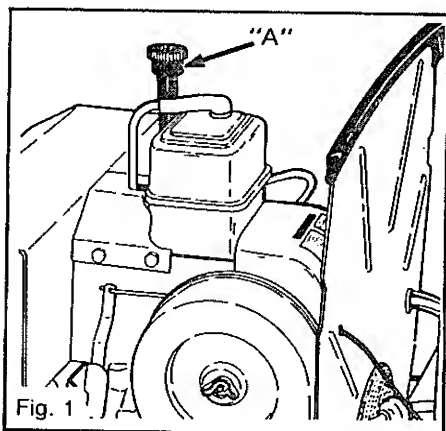

Fig. 1
1. Check for proper level of engine oil. Fill crankcase through dipstick opening. The oil level is indicated by marks on the dipstick (A), Figure 1, 2 & 2A.